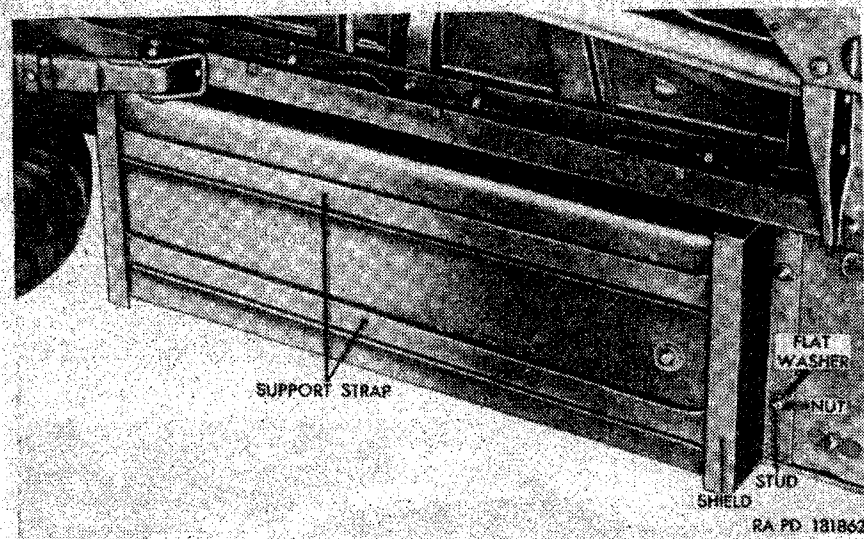

Figure 71. Fuel tank (M170)—installed.
- (6) Place a stand or blocking under the tank, making certain that such stand or blocking clears the fuel tank support strap (fig. 71).
- (7) Remove the four nuts and flat washers from the studs on the fuel tank support strap attaching brackets at each end of the fuel tank, and remove the two fuel tank shields and support straps.
- (8) Remove stands or blocking and lower tank.
- (9) Remove the filler cap with chain assembly by turning the cap counterclockwise and unhook the chain from the inside of the fuel tank filler neck.
- (10) Remove the 12 screws and soft copper seal washers securing fuel filter assembly to the tank, and remove the filter assembly and gasket.